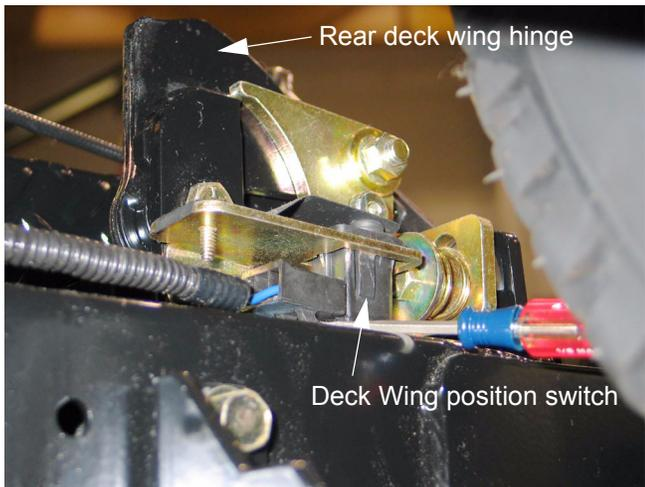

Figure 8.8
- 8.8. Disconnect the wires from the deck wing position switches on each rear deck wing bracket. See Figure 8.8.